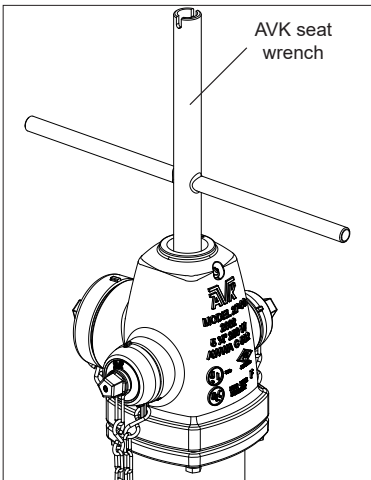

Fig. 7D
**CAUTION:** Do not overtighten the stop nut (F11) during re-assembly (see fig. 7D)!